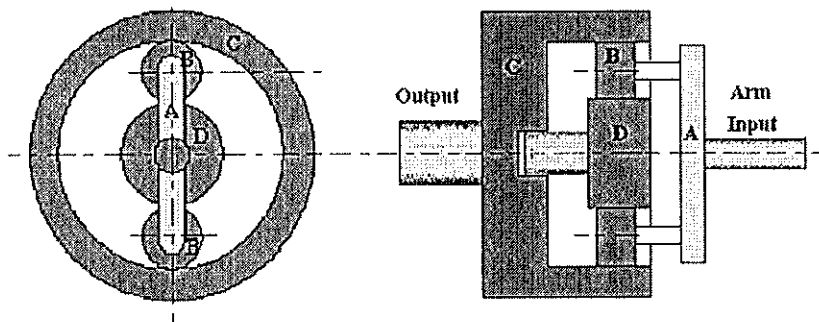

Figure Q4(b)
b) A compound gear train shown in the **Figure Q4(b)** consists of 4 gears; A, B, C and D. The input gear A revolves clockwise at 900 rpm as viewed from the left end. If the input torque is 30 Nm and the efficiency of the gear train is 80%, determine,